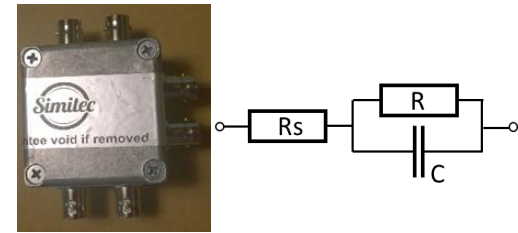
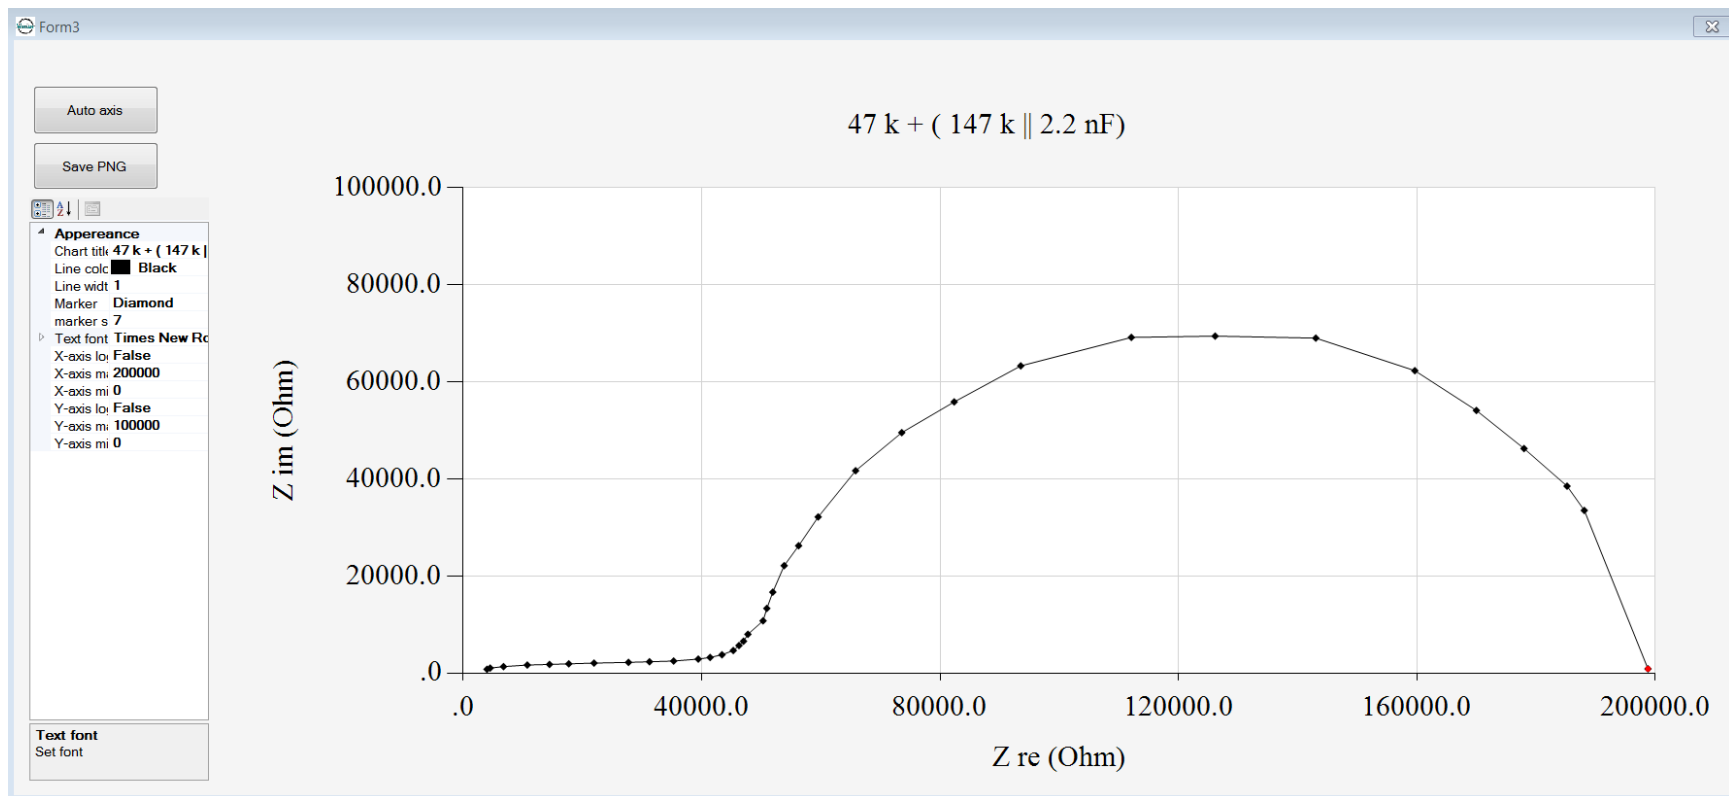

Fig. 2. Box and test circuits inside.
Fig. 3. Wessel plot of the circuit (1).
- As an example, in Fig. 3 is shown a Wessel plot of a basic cell, which is typical for bio-samples. Before starting the actual measurements, the measuring person can still verify the success of the calibration by measuring (according to this choice either the Schwan's α or β dispersion range, or both in low and high impedance regimes) with the calibration circuits included. These circuits (Z_1 - Z_3) are placed in an aluminium box (50x50x35mm), counter-clockwise from bottom to top (Fig. 2, left view). Circuits correspond to the basic electrical model of the cell (Fig. 2, right view), which can be represented by the mathematical models in the formulas (1-3).
- EIS-101 v2; Electric Impedance Spectrometer 3 625,00 € (*Device embedded additional microcontroller and clock circuit, USB2 cable and three calibration impedances as shown in Fig. 2*)